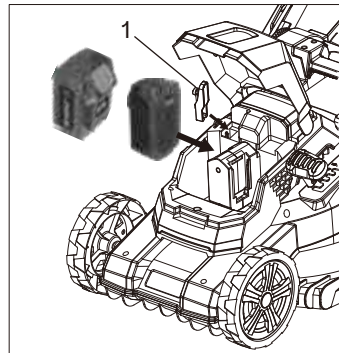

Fig. 9
2. Unplug the safety key(1) (Fig.9).
3. Remove the discharged battery packs by pressing downward on the battery release button and sliding the battery pack backward until it is removed from the battery compartment (Fig. 9).